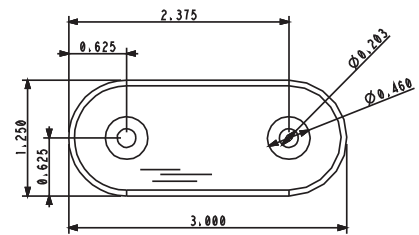

Figure 2. Flange dimensions
- For counter top mounting mark the flange holes. See Figure 2.